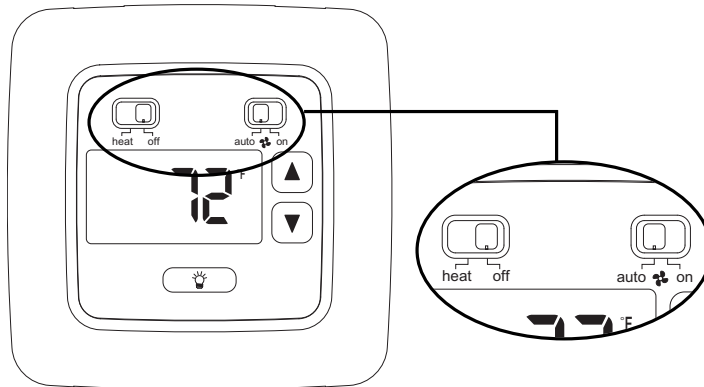

Figure 2
2. Place HEAT-OFF in OFF position (Figure 2).
3. Place AUTO  ON switch into AUTO position (Figure 2).